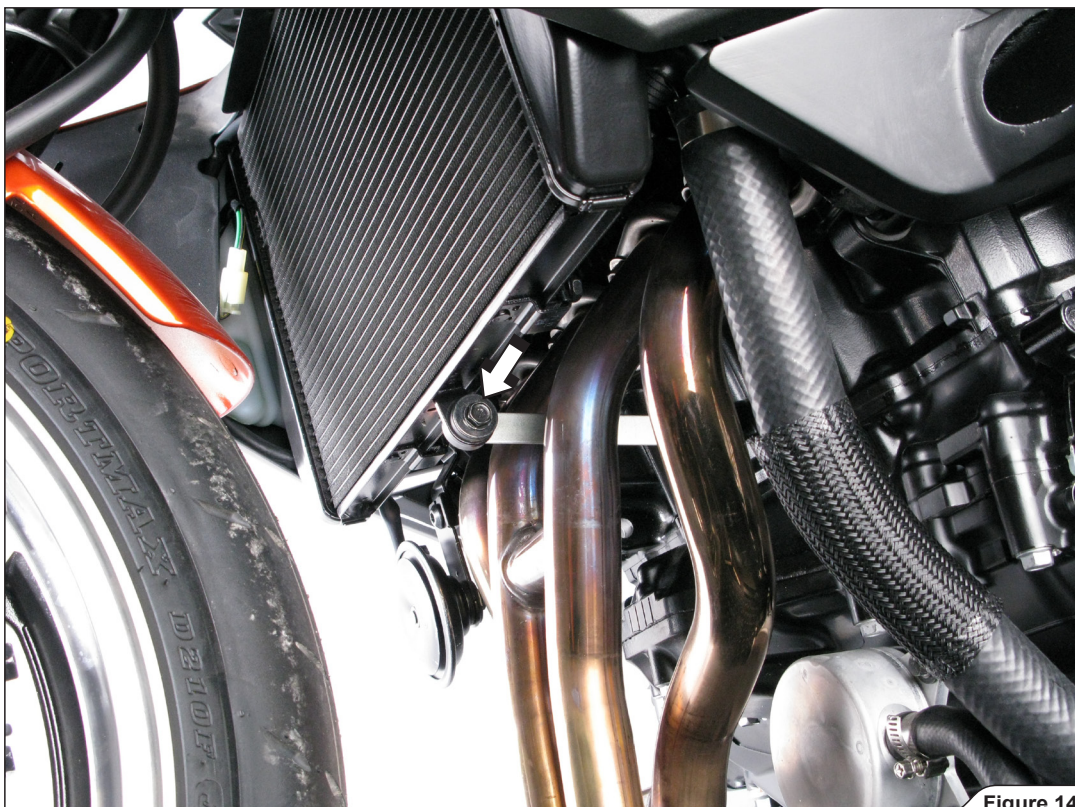

Figure 14
9. Unscrew the radiators' bracket and partially shift the radiator (Figure 14).